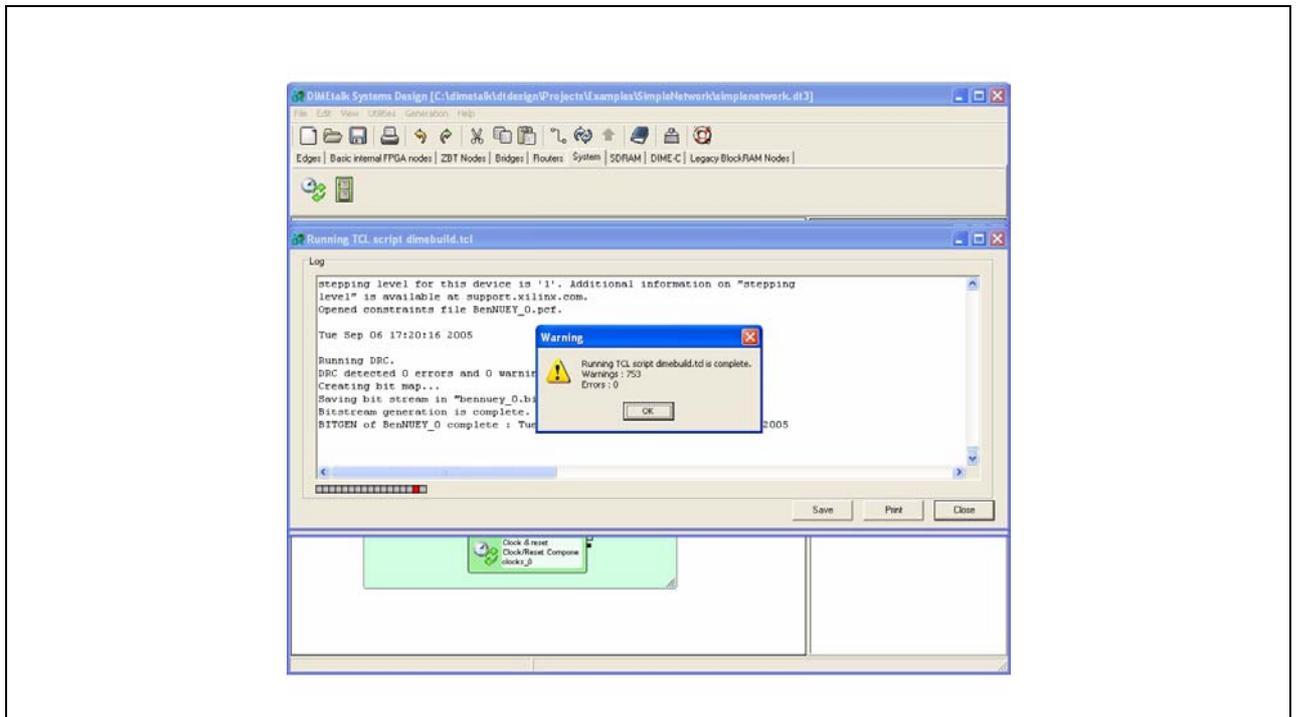

Figure 19: Warnings and Error
14. When the script completes a report of how many warnings and errors have been produced is displayed, as shown in Figure 19. The DIMETalk network is now built.